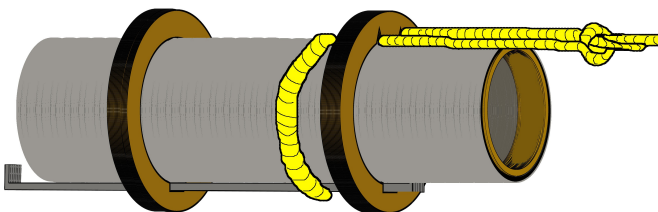

Figure 4
- **Step 14** Tie a knot about 5” from one end of the Kevlar thread. Push the **short** end of the thread through one of the “V” notches on the **long** motor mount, as shown in Fig. 4, wrap the thread around the motor tube, and push the thread back through the second “V” notch. Tie the **short** end of the thread around the **long** end with a slip knot, then pull the two knots together. Pull the excess thread through the ring, pushing the thread firmly against the back edge of the forward ring. Even out the two “legs” of the thread forward of the ring. Apply a layer of glue to the knots, and to the thread behind the ring to firmly secure it in place. Set this aside to dry.